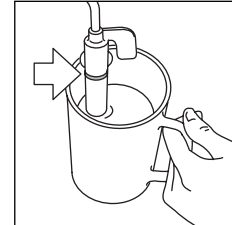

fig. 18
5. Dip the cappuccino maker into the milk (fig. 17), taking care not to immerse the raised line on the cappuccino maker (indicated by the arrow in fig. 18).